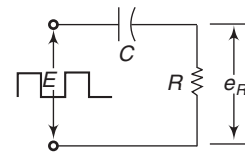

Fig. 8.16 Differentiating Circuit with a Square Wave Input.
Figure 8.16 shows an RC circuit with a square wave input and with the output voltage taken across the resistor. The shape of the output (resistor) voltage is dependent upon the relationship between the time constant (RC) and the pulse width (PW).